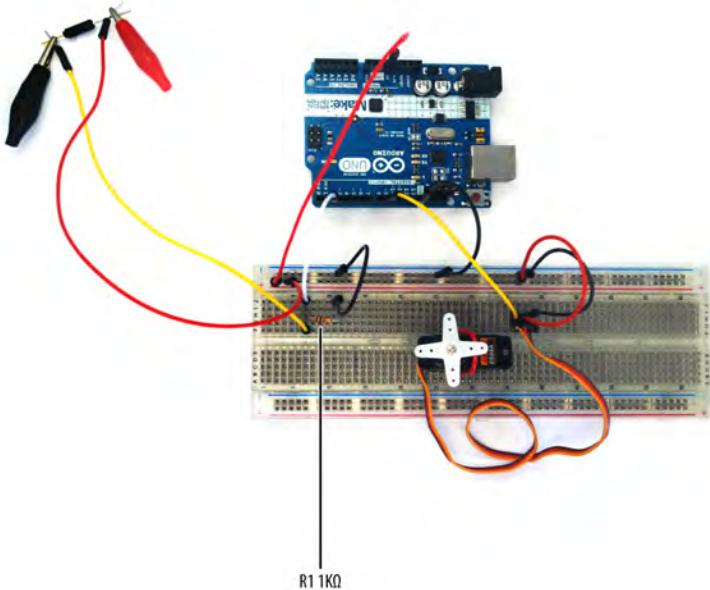
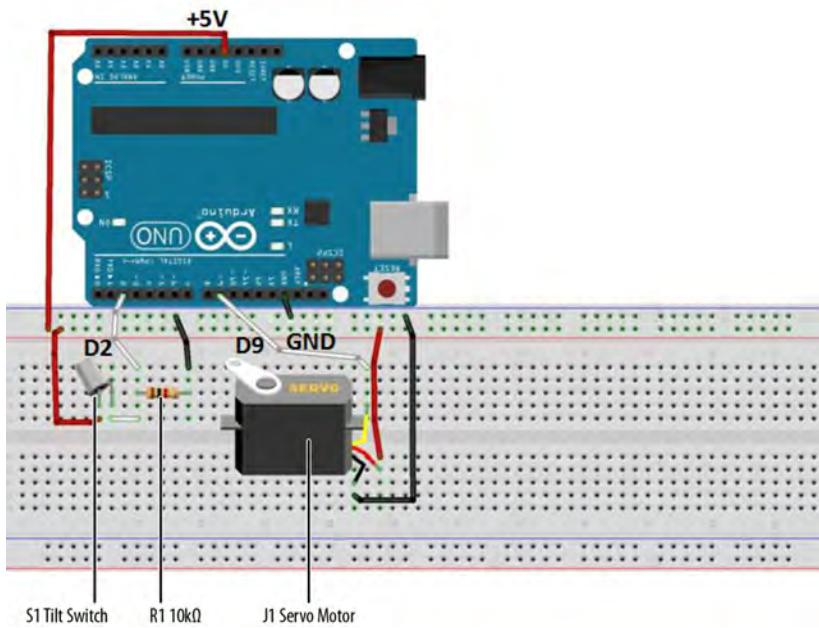

Figure 3-1. Tilt Sensing Servo Motor Controller built on a full-size clear breadboard
Figure 3-5. Tilt Sensing Servo Motor Controller Fritzing diagram
In this chapter, we'll build a gadget to easily detect object orientation using a tilt control switch to control a servo motor. This is an awesome device to build and show your Maker smarts to family and friends. By rotating the tilt control switch in an upright position, you'll be able to operate a servo motor. Figure 3-1 shows the Tilt Sensing Servo Motor Controller.
6. Wire the electronic parts using the Fritzing diagram of Figure 3-5, or the actual project shown in Figure 3-1.